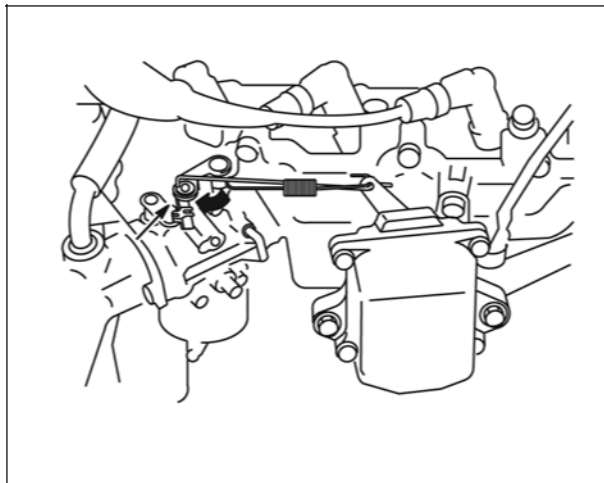

Figure 32
4. Slide actuator until governor link is positioned slightly to rear of hole in throttle lever bushing (Figure 32).